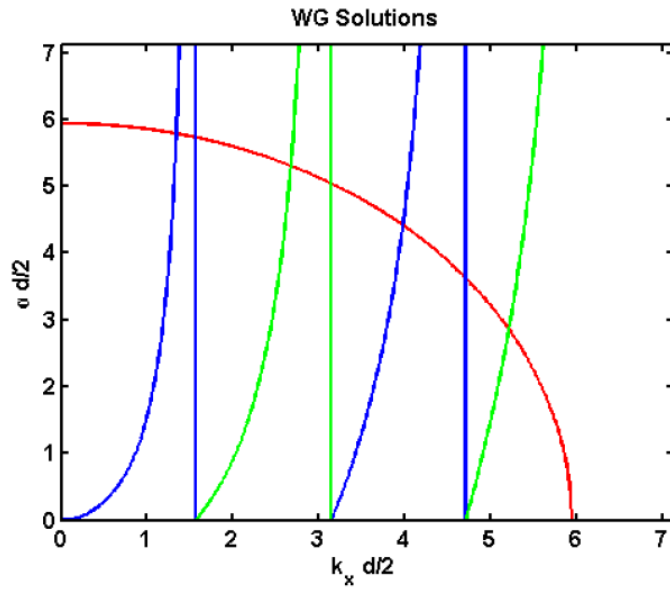

Figure 4.1: Graphical solution for symmetric slab waveguide.
(B) PROPAGATION ANGLE This problem requires finding first the transverse propagation constant for each mode (k_x). This is done in the same way as Problem 1 above. The graphical solution is shown in Fig. 4.1. To find the propagation angle, then, we simply use the relation